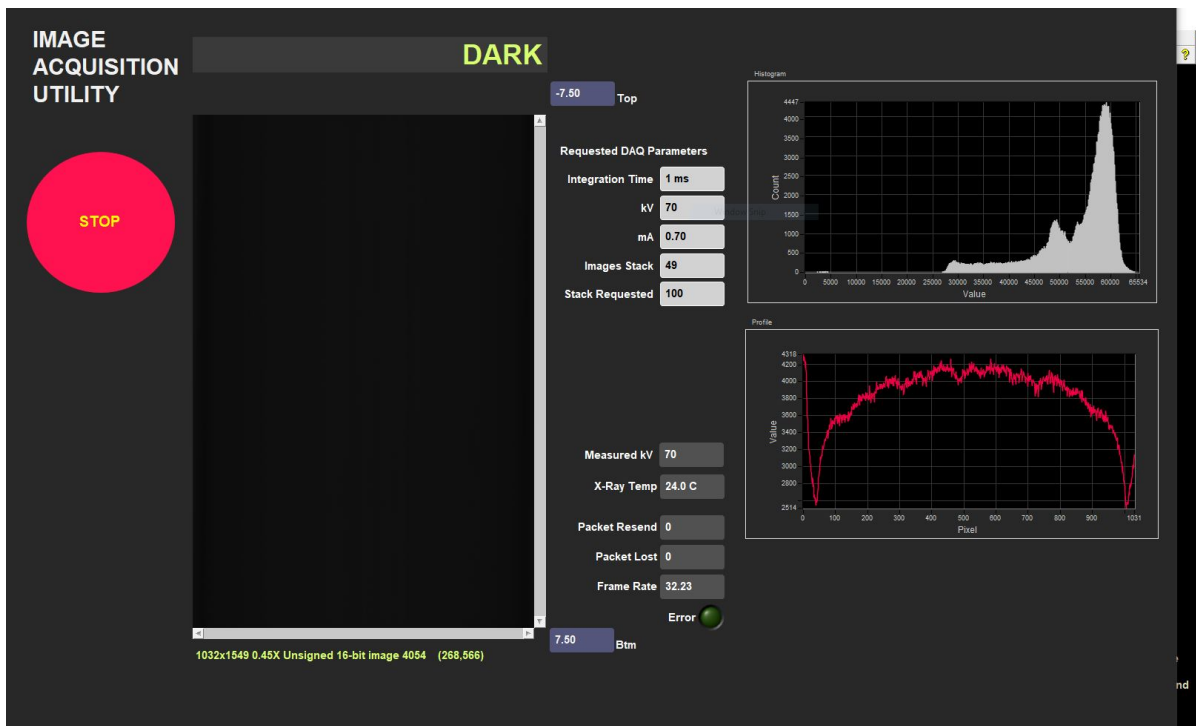

Figure 23-Dark Image Acquisition Window
- a. The **X-Ray Image Acquisition** window will open (**Figure 23**). During acquisition, the image window appears black but you will see values in the histogram and in the image line profile.